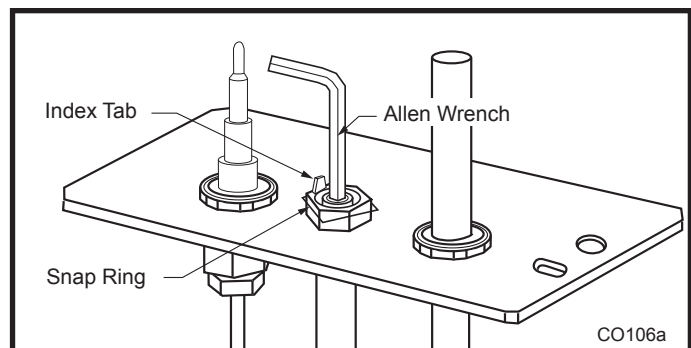

**Fig. 58** Use 3/8" socket to remove hex nuts holding burner legs.
4. Remove two (2) hex nuts holding the left burner leg. Remove burner leg. (Fig. 58)